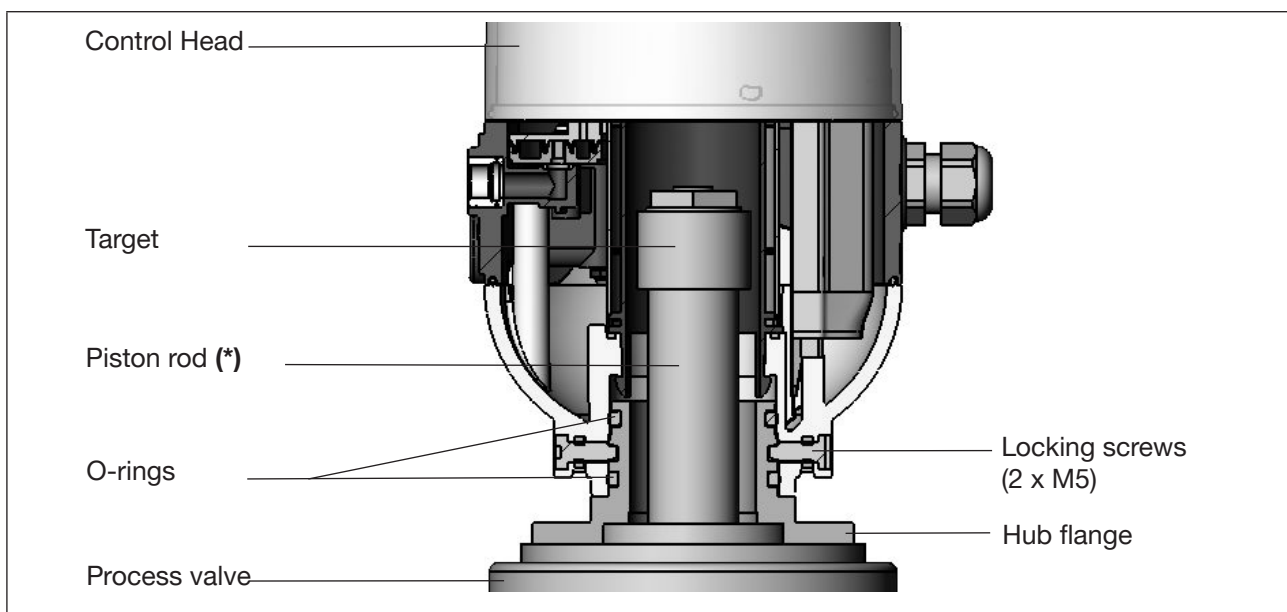

Fig. 11: Schematic diagram of the control head - process valve adaptation
- Fasten the hub flange on the process valve - see “Fig. 11”.
- Secure the control head with the 2 locking screws (shoulder screws M5) in the middle groove of the hub flange to prevent it from being pulled off the hub flange - tightening torque: max. 3.2 Nm (see “Fig. 11: Schematic diagram of the control head - process valve adaptation”) and chapter “7.2.3”.
- Loosen the locking screws (shoulder screws M5 - see “Fig. 11”) slightly until the underside of the screw head is flush with the auxiliary surface of the housing.
- Remove the lead seal (or plastic self-cutting screws) if the housing is secured (see “Fig. 11”).